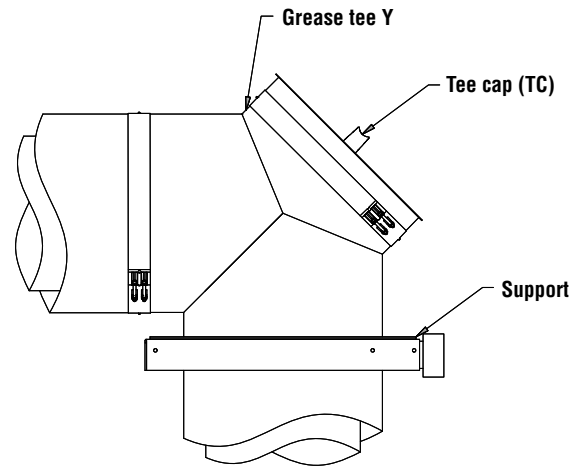

Figure 72 - Grease tee Y
1. The Grease Tee Y (GTY) is very useful where the grease duct must be accessed for clean-out and inspection purposes. See **Figure 72**.